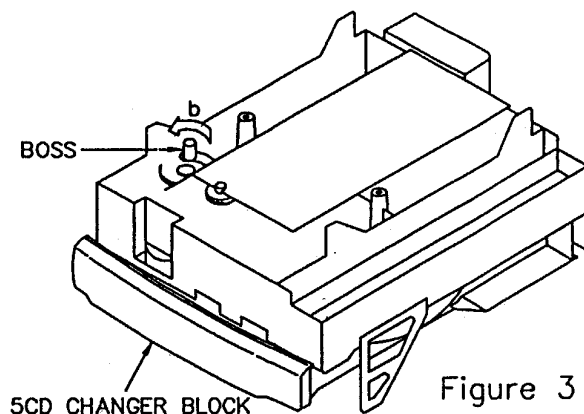

Figure 3
(figure 3)
- 1) Push the PLATE GEAR'S Boss at the bottom part of CHAS MECHA strongly to the outside (arrow "b" direction). (figure 3)